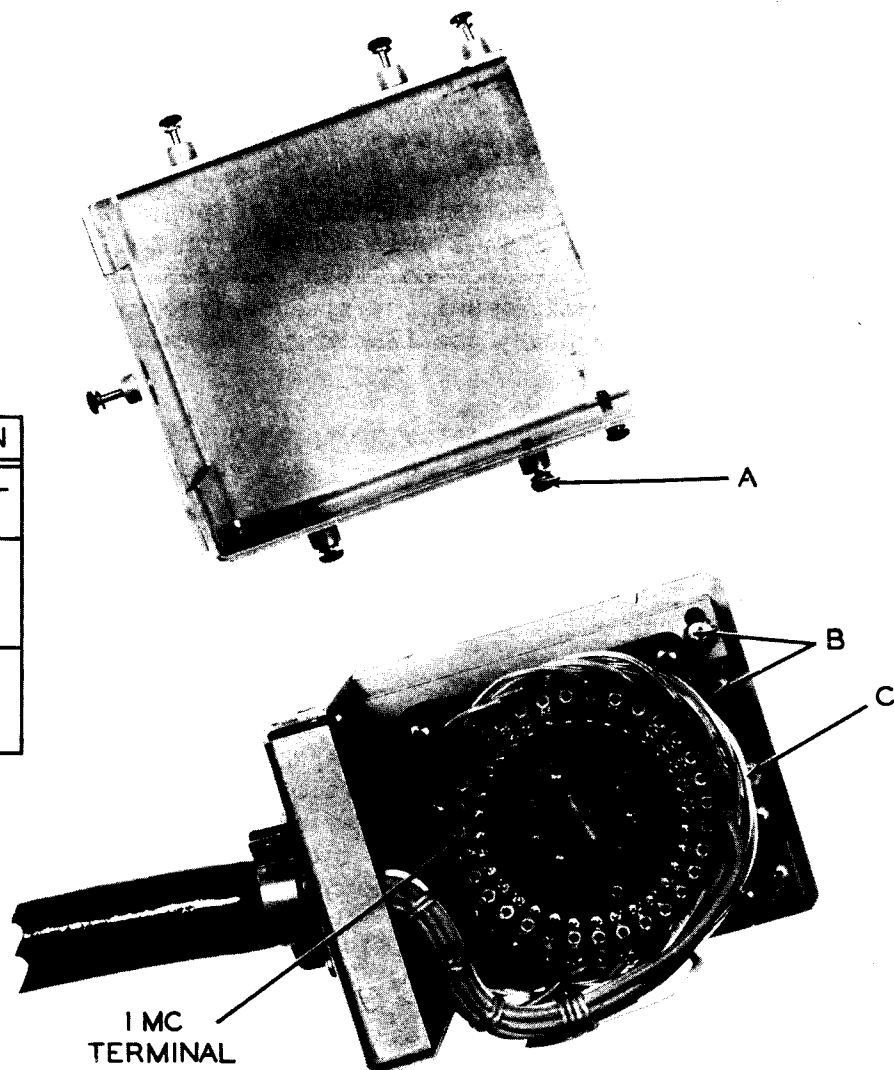

Figure 23. Band switch adapter of Electrical Special Purpose Cable Assembly CX-1619/U, cover removed.
- (2) Electrical Special Purpose Cable Assembly CX-1619/U is connected in the following manner. The call-outs mentioned refer to figure 23.
- (a) Remove the cover of the band switch adapter by unscrewing the seven cover securing screws (A).
- (b) Loosen, but do not remove, the three pairs of face-plate securing screws (B). (One pair of these is not visible in figure 23.)
- (g) Tighten the three main-frame securing screws (C) from the rear of the face-plate so that the band switch adapter is held securely to the rear panel of the radio receiver. (Two of these screws are not visible in figure 23.)